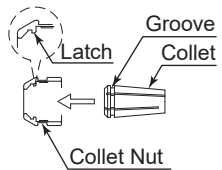

Fig. 23
- ③ To install the collet, hold the collet at a slight angle, and insert it into the collet nut (Fig. 23).